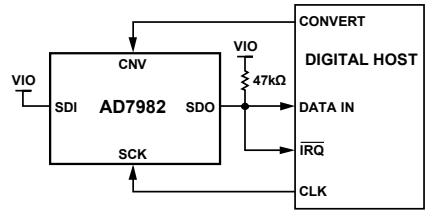
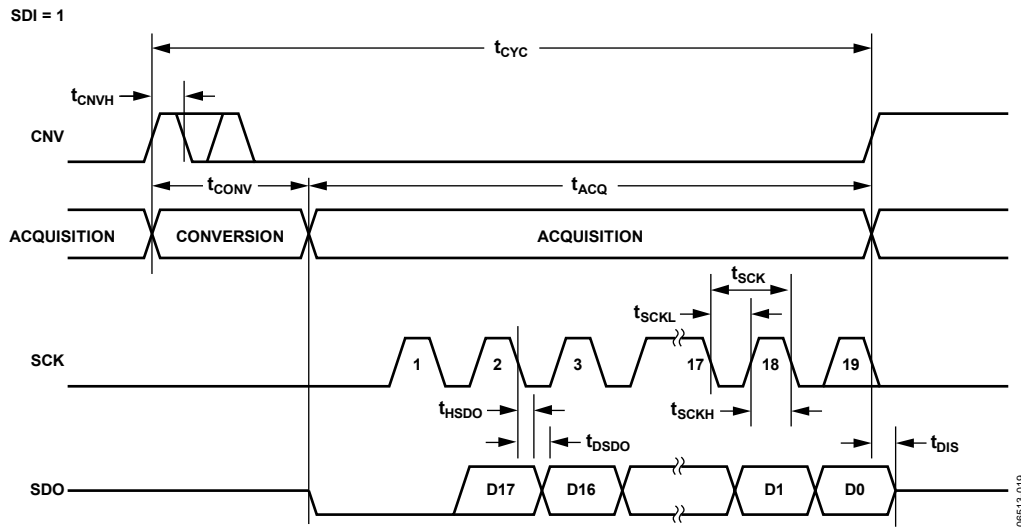
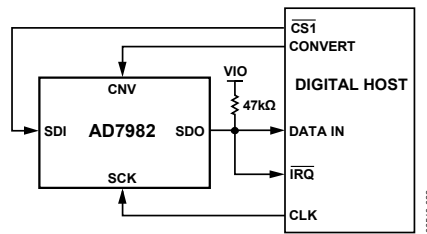
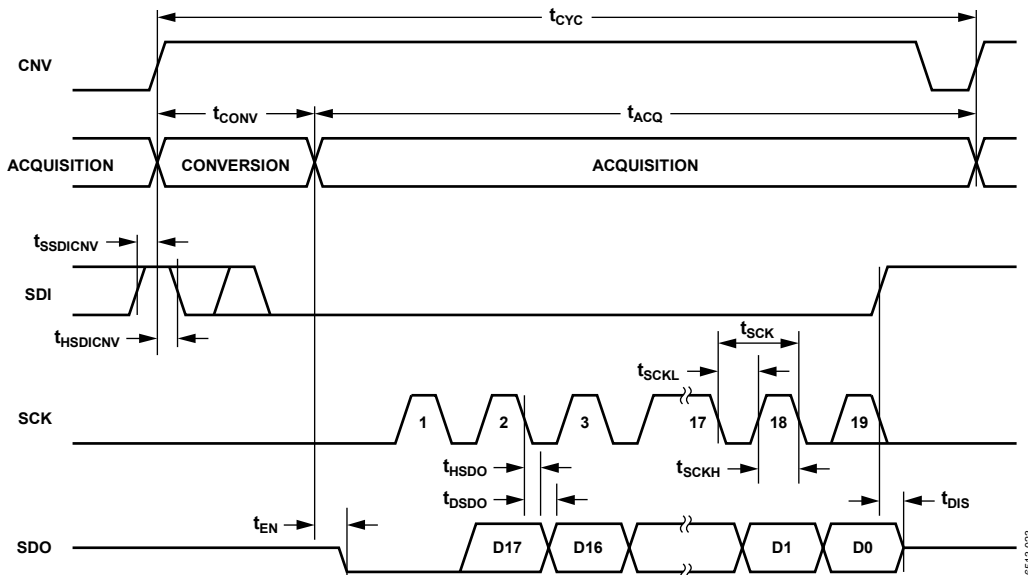

Figure 30. $\overline{\text{CS}}$ Mode, 3-Wire with Busy Indicator Connection Diagram (SDI High)
Figure 31. $\overline{\text{CS}}$ Mode, 3-Wire with Busy Indicator Serial Interface Timing (SDI High)
Figure 34. \overline{CS} Mode, 4-Wire with Busy Indicator Connection Diagram
Figure 35. \overline{CS} Mode, 4-Wire with Busy Indicator Serial Interface Timing
- In the $\overline{\text{CS}}$ mode if CNV or SDI is low when the ADC conversion ends (see Figure 31 and Figure 35).
The connection diagram is shown in Figure 30, and the corresponding timing is given in Figure 31.
The connection diagram is shown in Figure 34, and the corresponding timing is given in Figure 35.